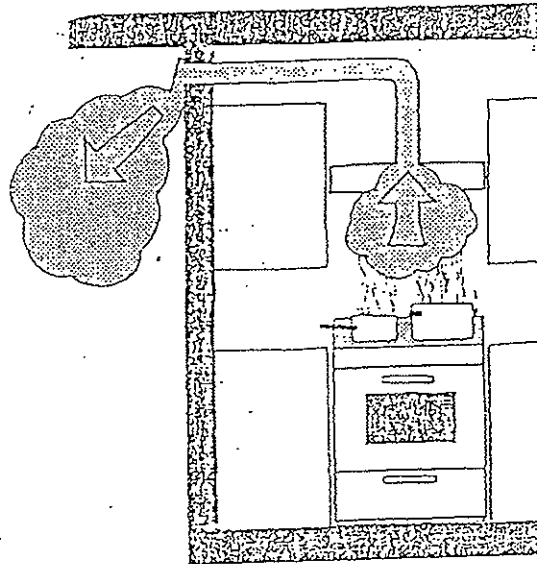

Figure 9 Kitchen exhaust fan.
- 3 Use the kitchen exhaust fan while cooking pots are emitting steam (Figure 9).